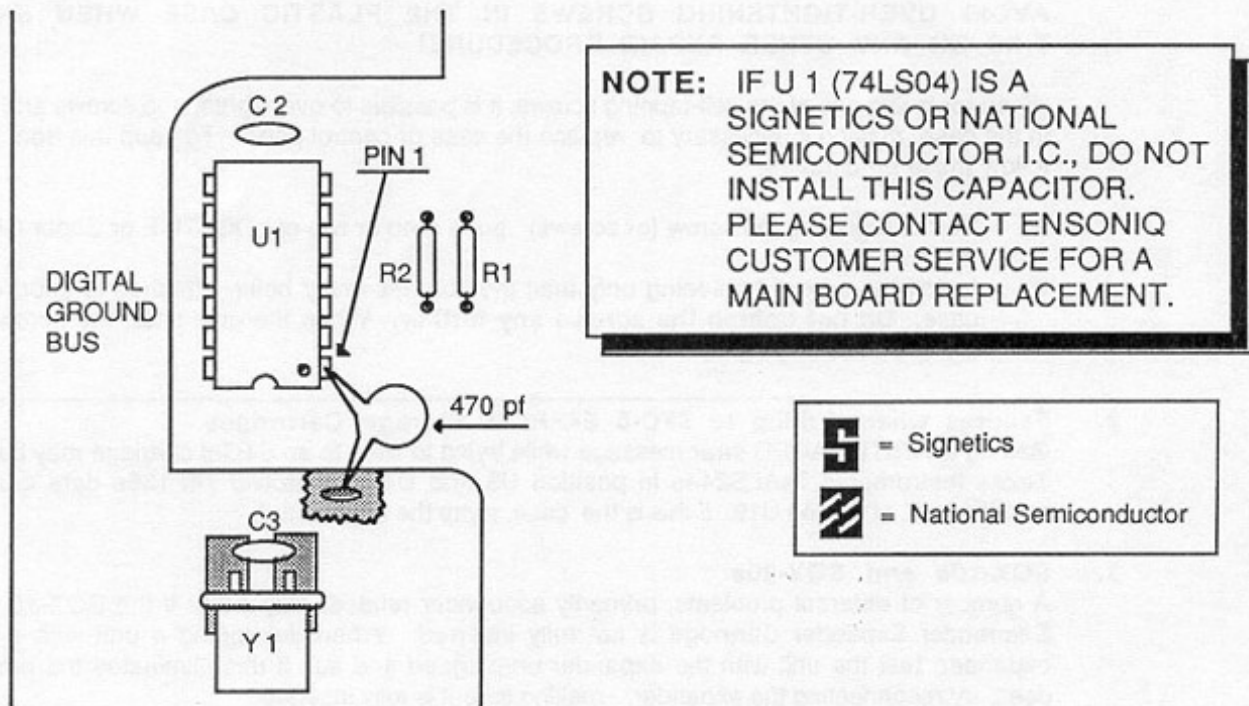

Figure 9
- A. Remove all cables, including the Power cable, from the ESQ-1. Remove the four (4) screws that fasten the control panel and raise the control panel.
- C. Do not remove the Main board from the unit. Locate U1 (74LS04). Directly across from pin 1 of U1, scrape the solder mask coating from an area about 1/4 inch square on the digital ground bus (see **Figure 9**). Tack-solder a 470pf capacitor between pin 1 of U1 and the scraped area of the ground bus.